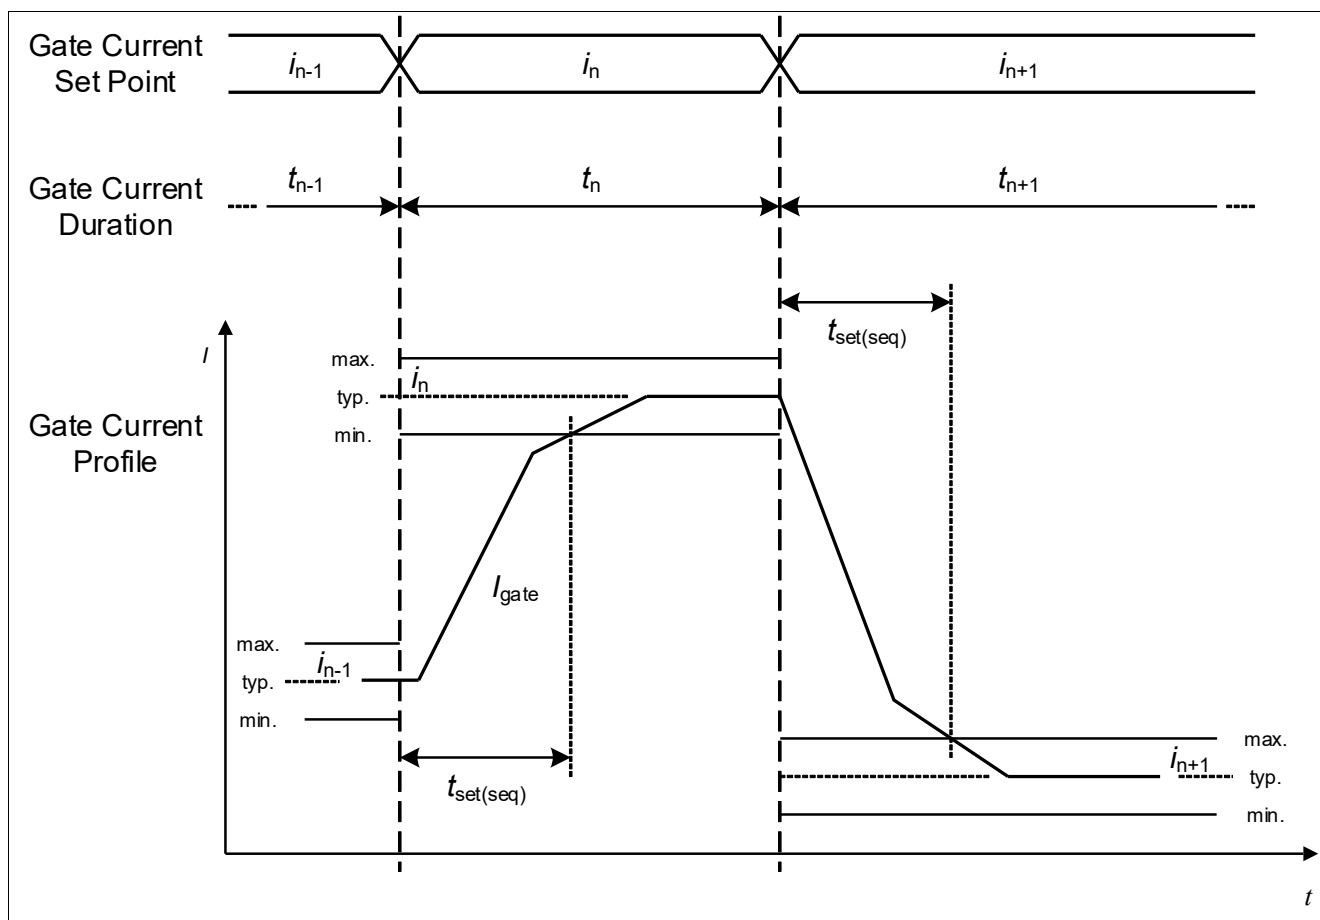

Figure 37 Gate current settling time
- At the transition between two gate current set points the actual gate driver output current settles within $t_{\text{set}(\text{seq})}$ to the new gate current set point (see Figure 37).